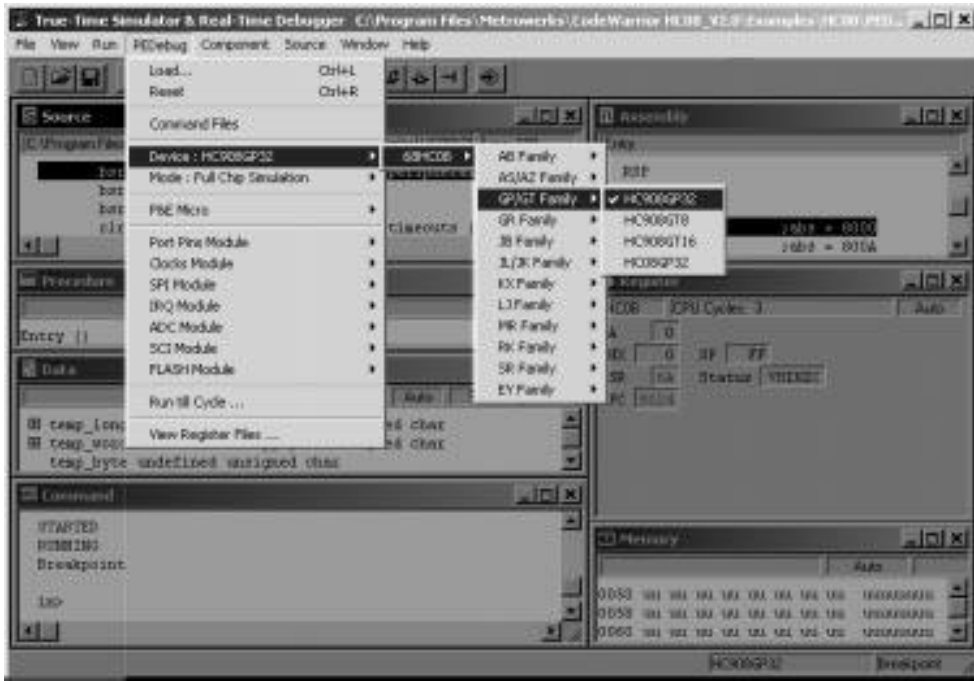

Figure 4-33: PEDebug Pull-down Menu
5. Select the PEDebug pull-down menu and navigate to the appropriate device as shown in **Figure 4-33**.